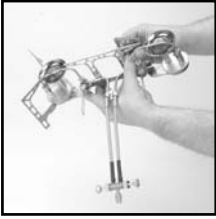

FIG. 3
- Unfold stove legs to stops and place on reflector disc. (Fig. 3, 4, and 5)